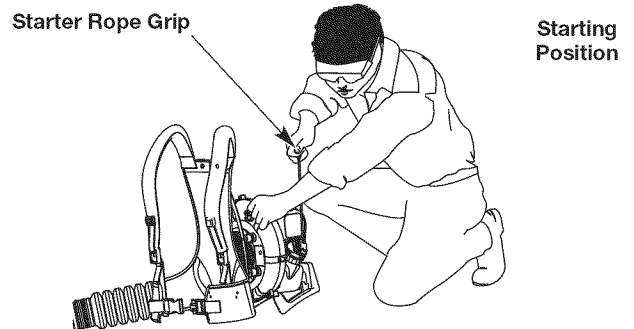

Fig. 12
WARNING: Avoid accidentally starting the unit. To avoid serious injury, the operator and the unit must be in a stable position when pulling the starter rope (Fig. 12).
5. Crouch in the starting position (Fig. 12).
6. **DO NOT** squeeze the throttle control. Pull the starter rope with a controlled and steady motion **5 times** (Fig. 12).